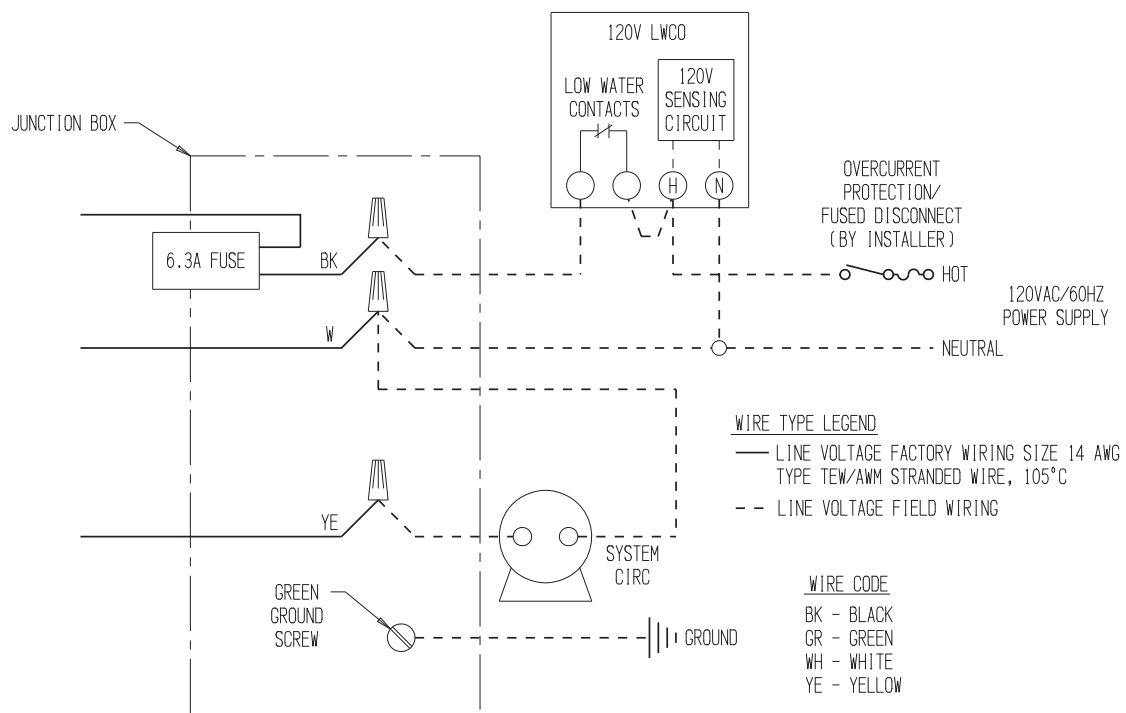

Figure 11.4a: 120 Volt LWCO Field Wiring
- A 120V LWCO may be wired to break 120V power to the boiler (Figure 11.4a)